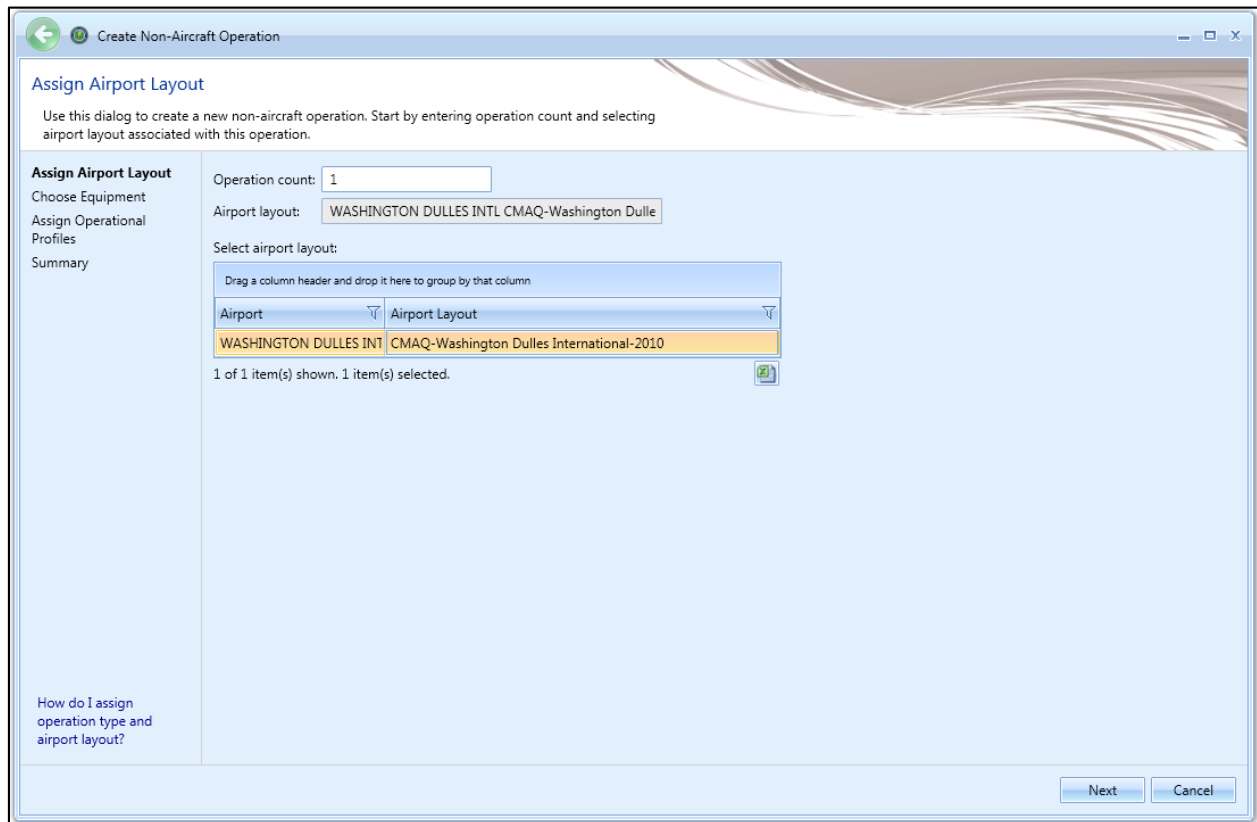

Figure 6-22 Create Non-Aircraft Operation – Assign Airport Layout
2. In the *Non-Aircraft Actions* ribbon group, click *New* to open the *Create Non-Aircraft Operations* wizard (Figure 6-22).
The airport layout is assigned in this step (Figure 6-22). This step is the same for both single and bulk operation creation.